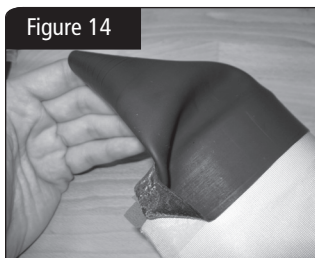

Figure 14
10. Gently separate the seal from the fabric by lightly peeling. Gloves may help as the wrist seal will be hot where contacted by the iron. See Figure 14.